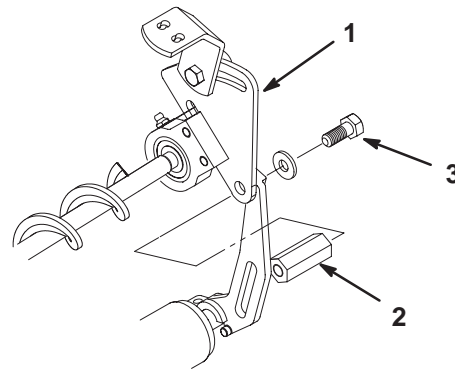

Figure 6
- On the other end of the cutting unit, loosely secure the bearing adjustment plate to the hex extension with a hex head screw (M10) and flat washer (Fig. 6). Do not overtighten; the brush must pivot freely.